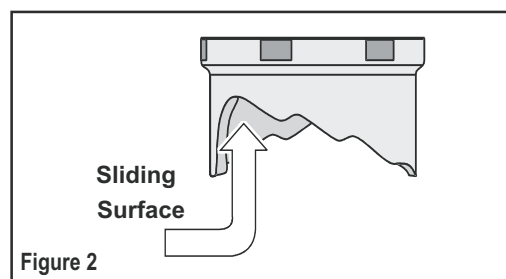

Figure 2
- Rear ride height can be adjusted by turning the adjusting cam to a higher setting. This is also used to stiffen the shock if excessive bottoming occurs while riding the bike. Apply a small amount of the provided lubricant to the sliding surface of the cam and use the spanner wrench to rotate the cam. **Figure 2**